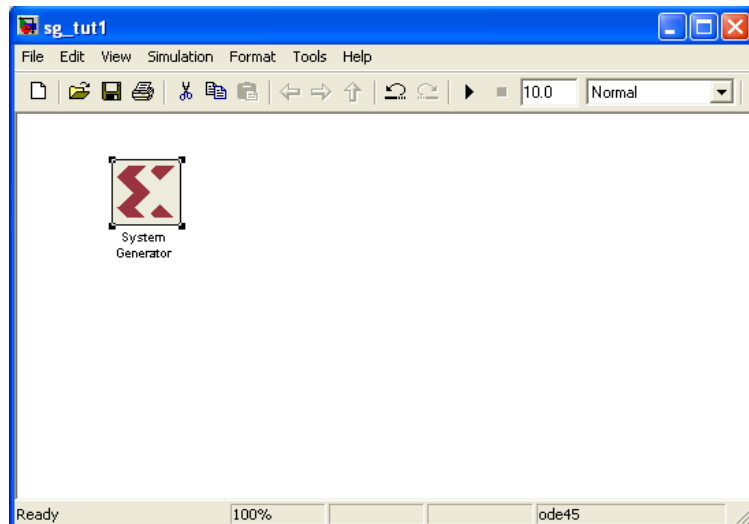

Figure 2: Creating a new Design
- **Xilinx System Generator Block:** The first block to be used in any System Generator model is the System Generator Block. This block can be found in the following Simulink category: **Xilinx Blockset**→**Basic Elements**→**System Generator**. Place the System Generator block in the new model window as shown in Figure 2.